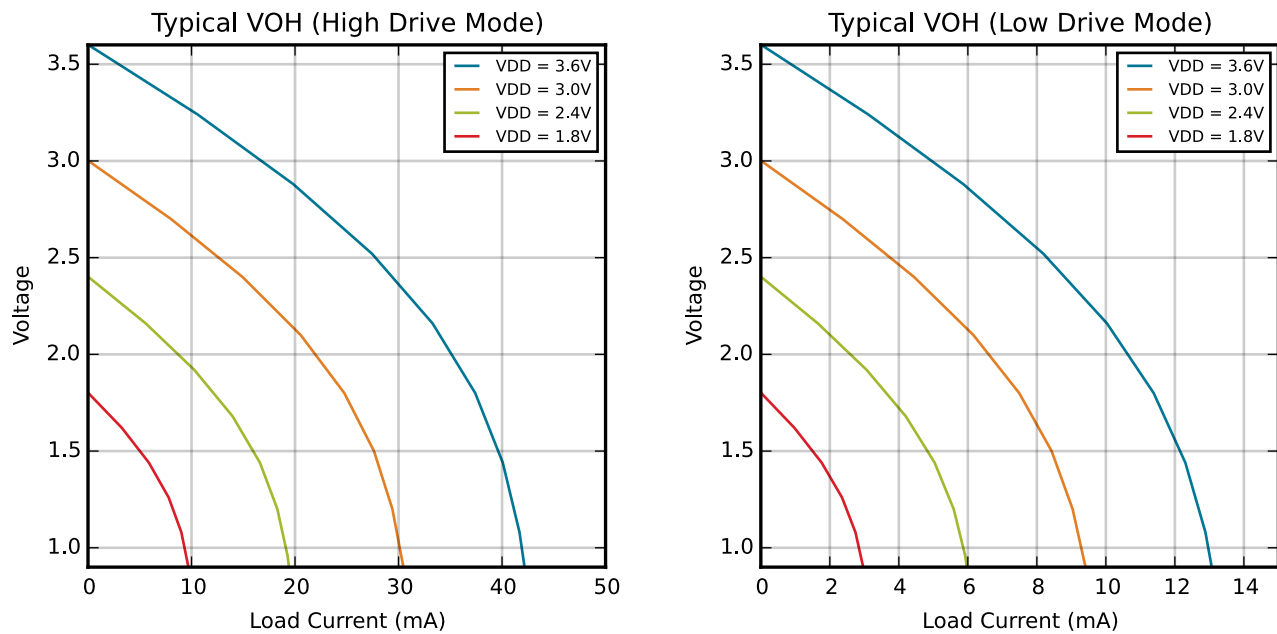
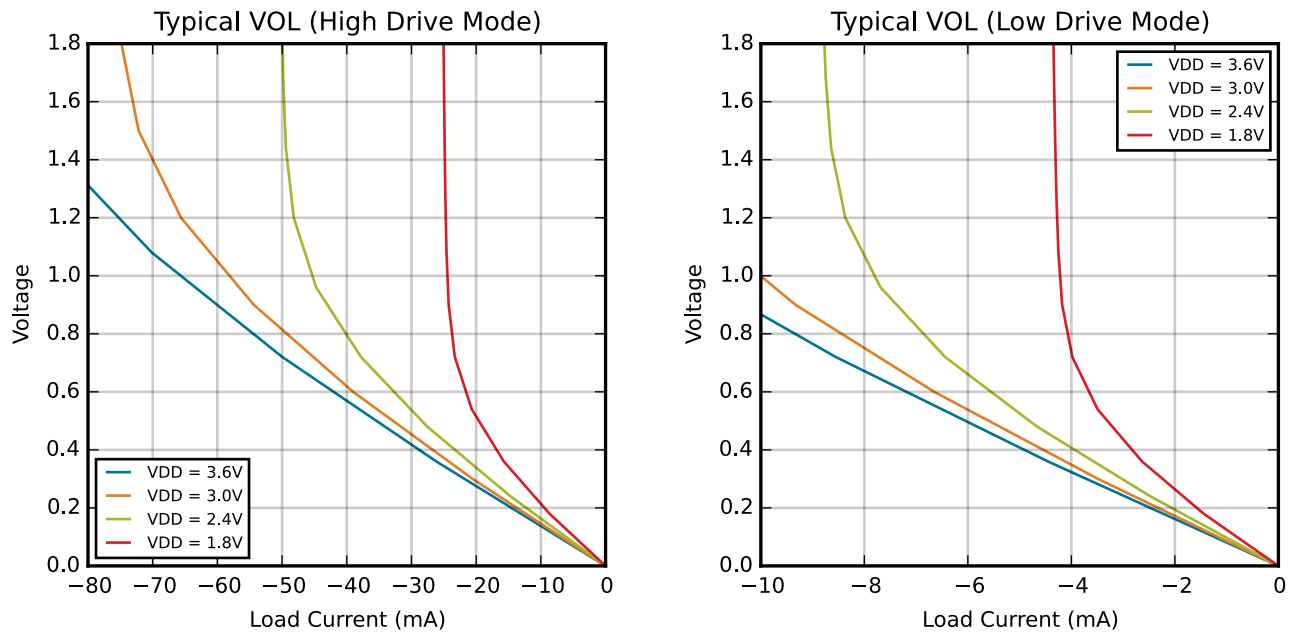

Figure 4.3. Typical V_{OH} Curves
Figure 4.4. Typical V_{OL} Curves
1. See Figure 4.3 Typical V_{OH} Curves on page 32 and Figure 4.4 Typical V_{OL} Curves on page 33 for more information.